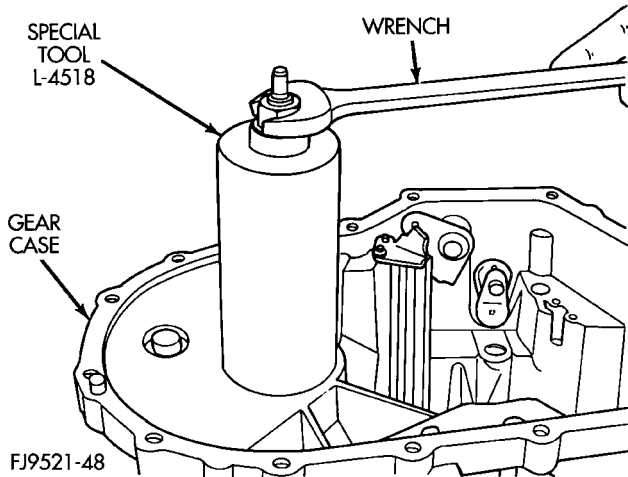

Fig. 132 Tool Cup Installed
- (3) Install the tool cup over the tool (Fig. 132).